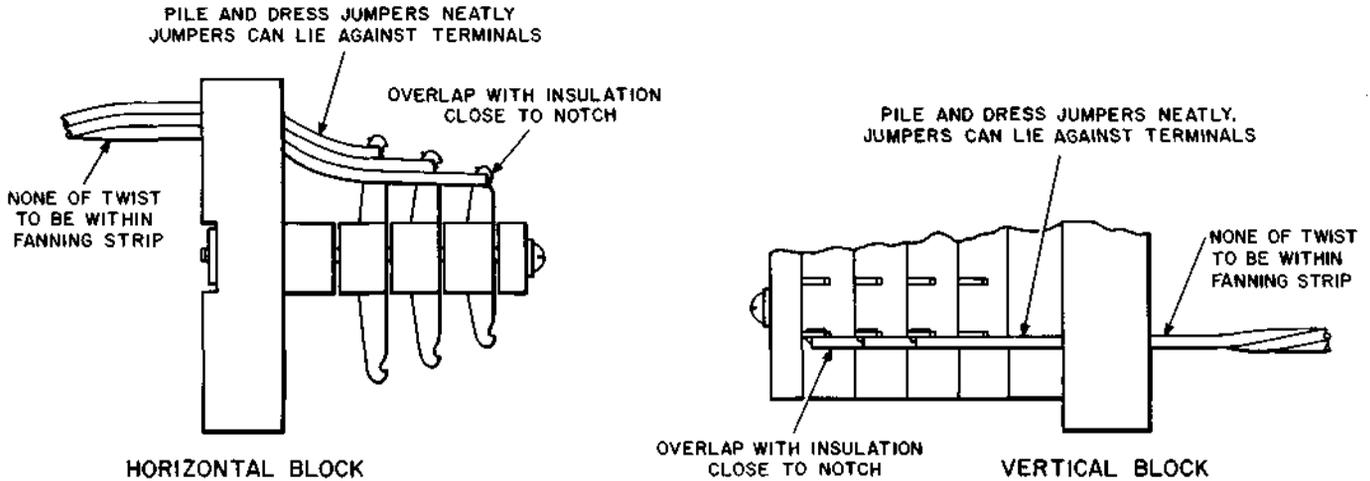

Fig. 2—Termination of U-type Wire on Terminal Strip
5.06 The conductors of the jumper should be untwisted so that none of the twist remains within the fanning strip after the wire is terminated. However, the jumper should not be untwisted more than one regular twist back of the fanning strip. (See Fig. 2.)
**8.02** When terminating the wire, hold the jumper back of the fanning strip. Adjust the wire so the insulation comes up close to the notch of the terminal. Wrap the skinned wire around the terminal and cut or break off the excess wire. With this arrangement, the insulation overlapping the terminal will be held firmly in place. Fig. 2 through 10 show typical terminations.
**8.10** When terminating jumpers on terminal strips of the type shown in Fig. 2, connect the wire on the terminal nearest the front first and work toward the rear of the block.